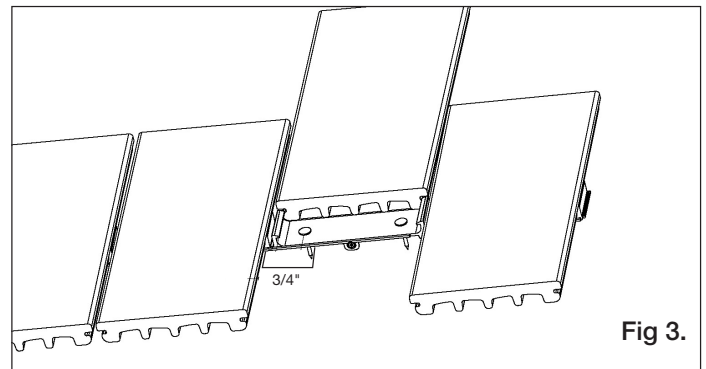

Fig 3.
- b. Locate the first deck board at outer rim joist away from the house or structure and work towards the house. For outer edge board installation (Starter, Solid, or Scalloped profile), do not overhang the board more than 1" (25 mm) widthwise or 2" (51 mm) lengthwise. For a standard 1" (25 mm) overhang, measure and mark a location 22" (559 mm)* from the outer rim joist on the outermost joists that run perpendicular to that joist and snap a chalk line across the entire length of the deck. Position the Step-Clips with one edge along chalk line and fasten the first row of strips to each joist with a 1-1/4" (32 mm) stainless steel ring shank roofing nail using 2 nails between each set of clips. (Nails MUST be located within 3/4" (19 mm) of the clip with a total of 8 nails per each four board strip (fig 3). **NOTE:** the side tabs on all of the strips should be orientated on the same side of the joists and flush against the joist to allow for linking subsequent strips together along each row of clips. Trim the overhang of the first row of hidden fastening strips flush with the outer rim joist. Slide the outer deck board securely into the first clip (ensure it is properly engaged in the groove of the board) and screw down the opposite, outer edge of the board at each joist location using color-matched, capped composite deck screws like Starborn® Deckfast Cap-tor xd or the Starborn® Pro-Plug system (Solid and Starter profiles only).